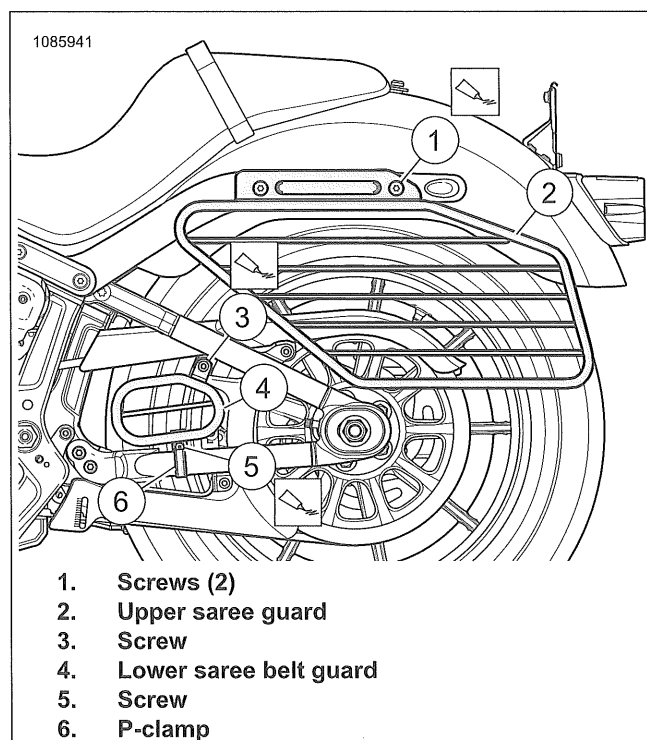

Figure 3-126. Saree Guards
1. See Figure 3-126 Remove upper saree guard.
- a. Remove screws (1) and washers.
- b. Remove guard (2).
- b. Remove guard (4).
1. See Figure 3-126. Install upper saree guard.
- a. Place upper saree guard (2) in position.
- b. Install threadlocker to screws (1).